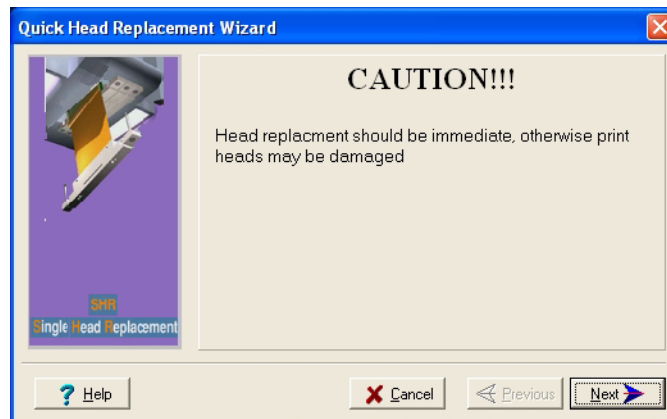

Figure 7-37:Head Replacement warning screen
7. Take note of the warning screen that appears (see figure 7-37). To prevent damage to the print block, you must install the new head immediately after removing the defective one. Click Next if you are ready to continue.